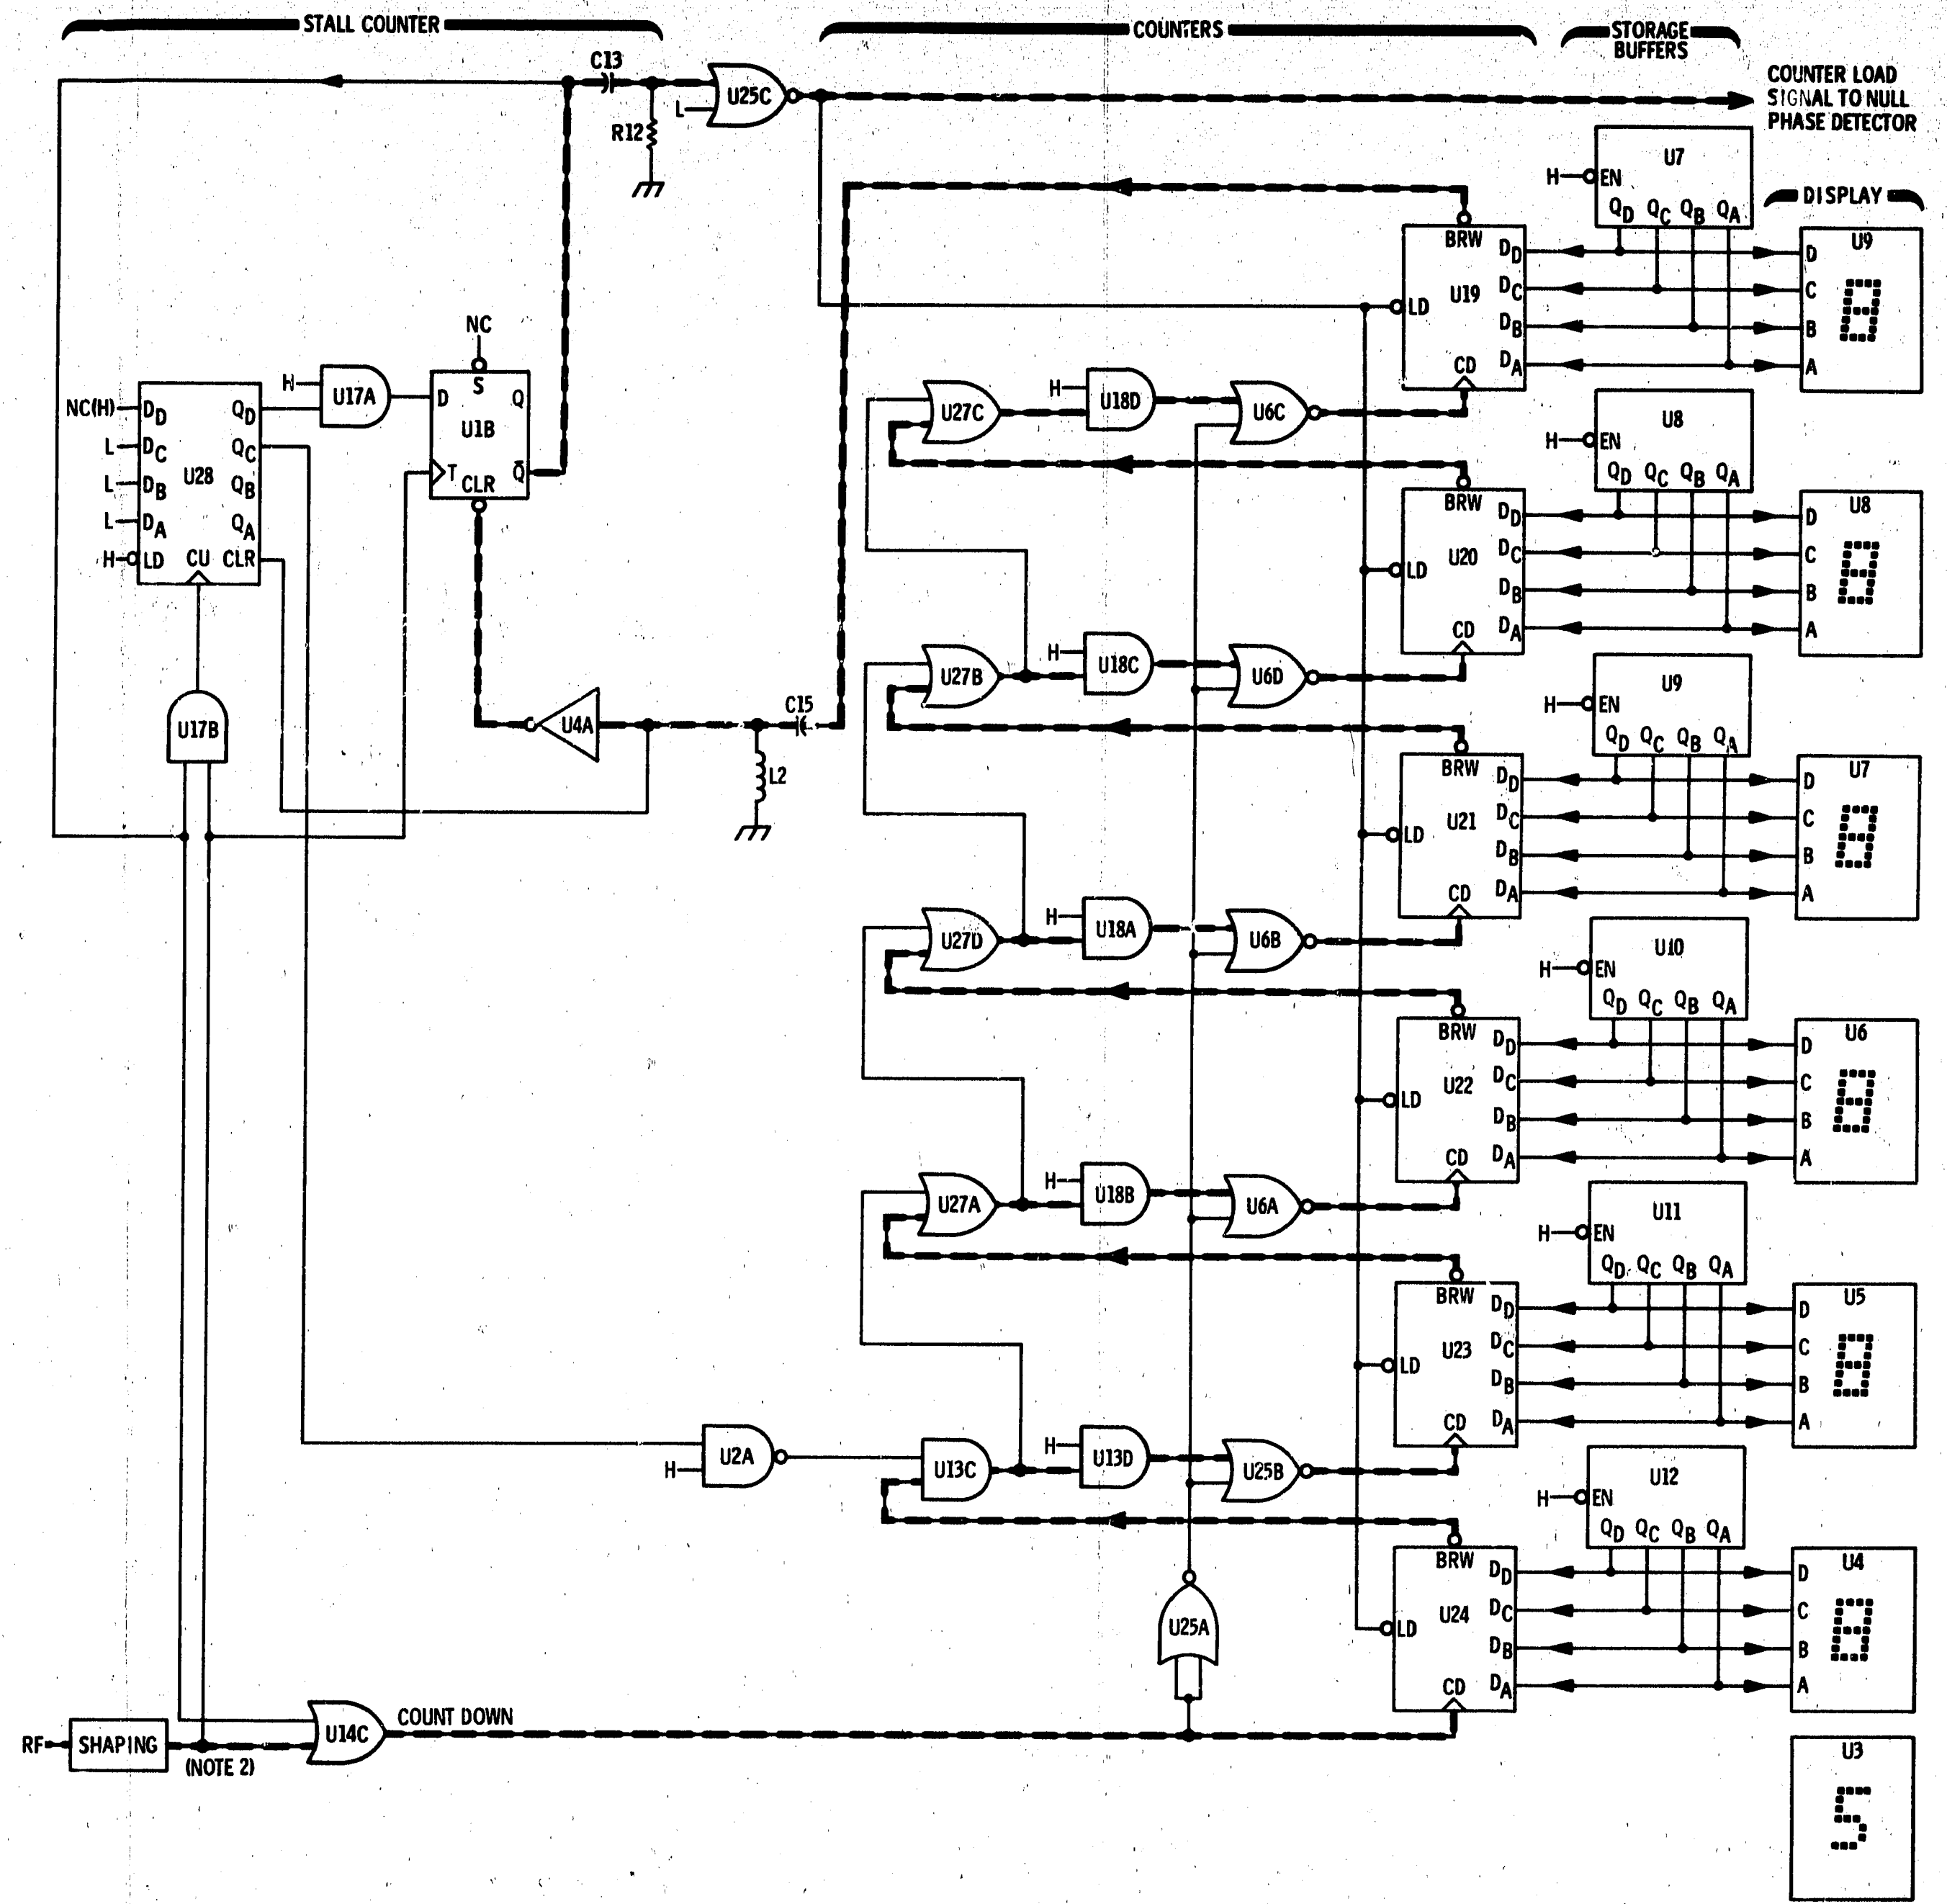

Figure 8-24. Down Counter (Phase Lock Mode) Simplified Diagram
**Counter Operation — Phase Lock, Count-Down Mode (see Figure 8-24)**